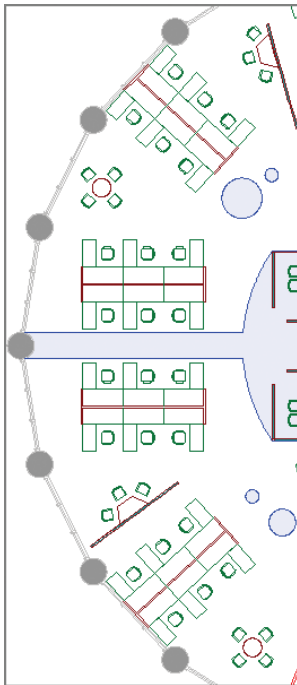

FIGURE 4.27 Mirroring a furniture grouping
7. Toggle on Polar Tracking, move the cursor horizontally to the left—beyond the building—and click to specify a horizontal mirror line. Press Enter to complete the command, and decline to erase the source object. A copy of the furniture system appears symmetrically in the lower-left building quadrant (see Figure 4.27).